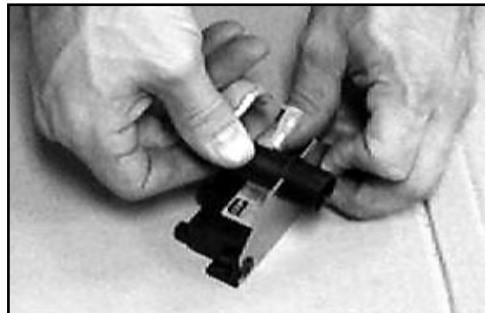

Fig. 2
2. Insert the threaded section of the ignitor into the U-shaped cut out of the ignitor mounting bracket. (See Fig. 2)